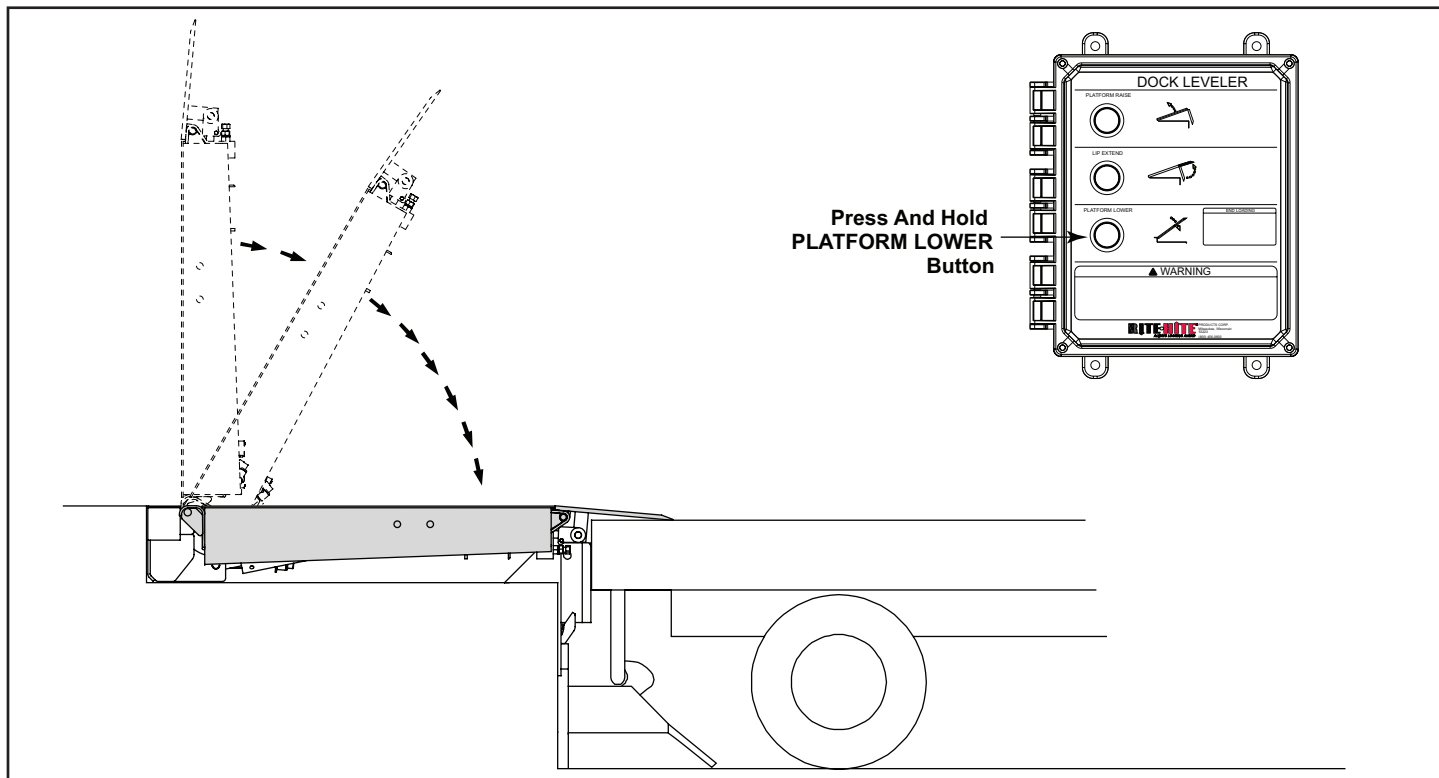

FIGURE 3 - LOWERING THE LEVELER TO WORKING POSITION/LIP RESTING ON TRUCK FLOOR
1. Press and hold the PLATFORM LOWER button until the lip rests on the truck floor. See Figure 3.